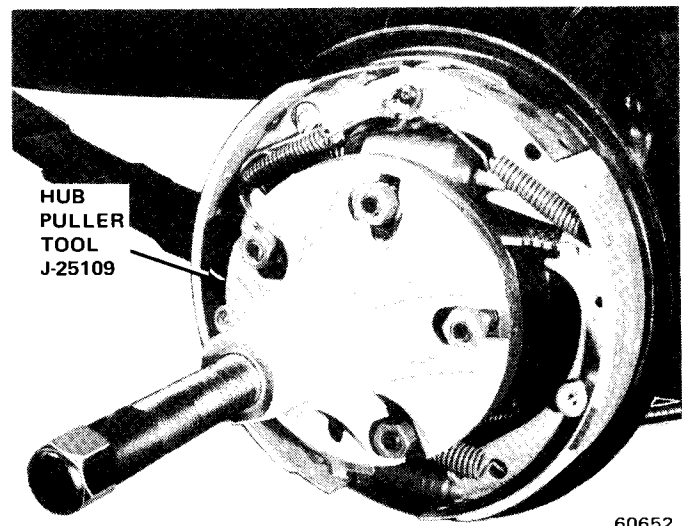

Fig. 10-17 Removing Rear Axle Hub—CJ Models
- (1) Remove axle shaft dust cap.
- (2) Remove axle shaft nut and washer.
- (3) Raise and support vehicle.
- (4) Remove wheel and tire.
- (5) Remove three screws attaching brake drum to rear hub and remove drum.
- (6) Install Hub Puller Tool J-25109 and remove rear hub (fig. 10-17).